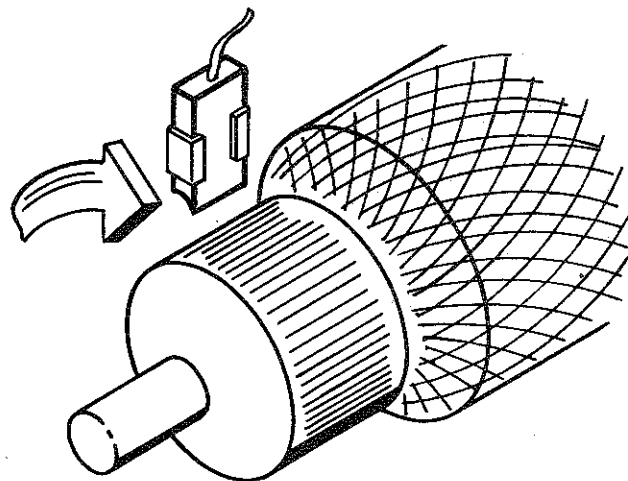

Figure III-7 Starter Brush Positioning
- (1) Remove the dust strap.
- (2) Raise the brush pressure springs and pull the four brushes out of their guides.
- (4) Scribe a line on outside of case and end plate for locating during reassembly.
- (5) Remove the end plate-and-brush assembly.
- (6) Remove dust and dirt using a bristle brush or cloth, wipe the armature and all adjacent parts clean with a cloth dipped in solvent, and wipe or blow dry.
- (7) Using the scribe mark, locate the new end plate in the desired position one inch from case and set the new brushes near their respective guides.
- (8) Move the end plate into position against the case, being careful not to damage the brushes or leads.
- (9) Lift the brush pressure springs and slide the brushes into their guides so that the high edge of the contact surface is facing in the direction of armature rotation, as illustrated (figure III-7).
- (10) Make sure no wires or insulation are caught between the end plate and case.
- (11) Press the end plate into position lining up the scribe mark, and install the four end plate screws.
- (12) Turn the armature by hand and make sure no wires are rubbing.
- (13) Install the dust strap.